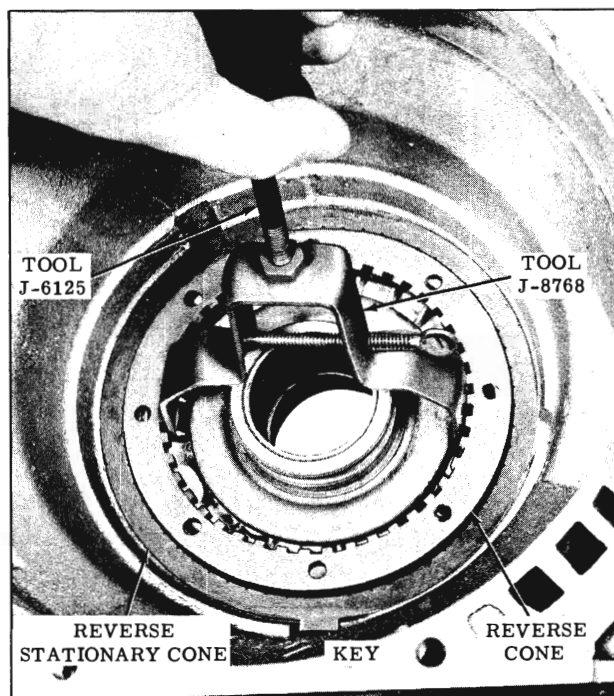

Fig. 3-251 Removing Reverse Cone
- 55. Remove the reverse cone and stationary cone using Tool J-8768, Cone Remover. Slide hammer, Tool J-6125 may be used if reverse cone sticks. (Fig. 3-251)